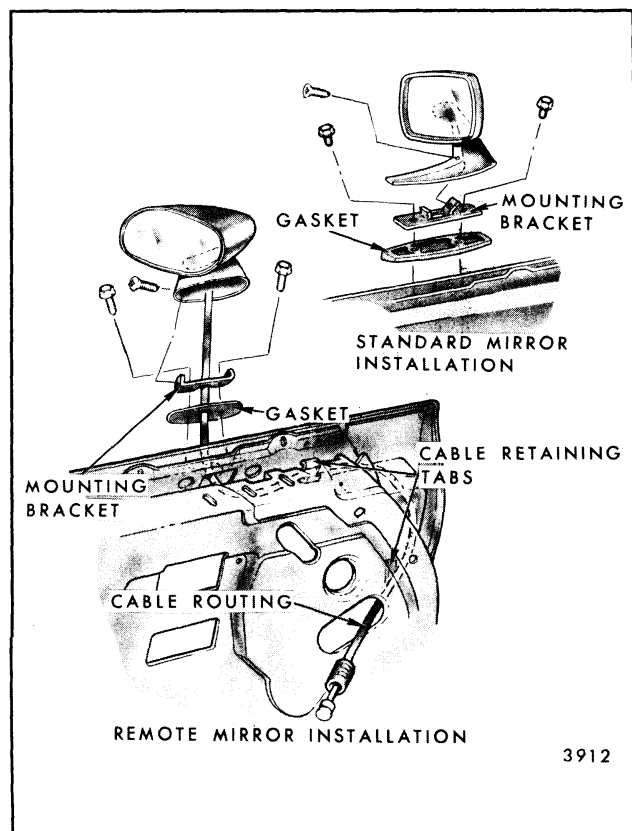

Fig. 5-73-Door Outside Remote Mirror Removal - "F and X" Styles
- Remove door trim assembly and peel inner panel water deflector back sufficiently to gain access to remote mirror cable. Then detach remote cable from retaining tabs on inner panel reinforcement (refer to Fig. 5-73).
- Remove attaching screw in base of mirror and remove mirror (Fig. 5-73).